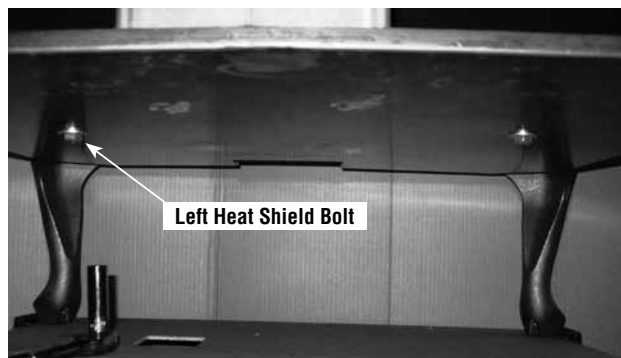

Figure 14
Step 1. Using a 9/16" wrench or socket loosen the left heat shield bolt. This bolt is located on the bottom side of the leg heatshield as shown. See *Figure 14.*